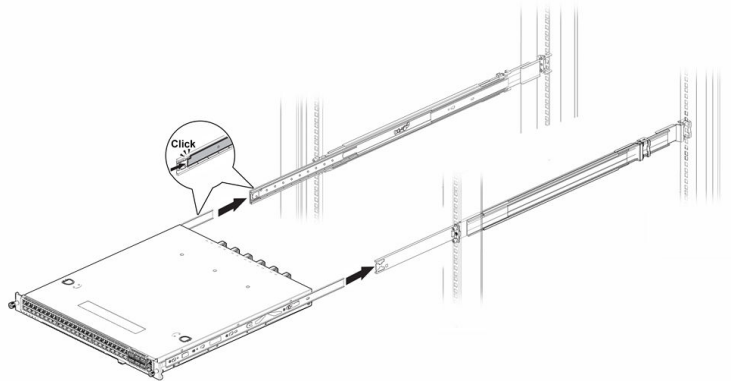

Figure 11: Engaging the Mounting Brackets with the Rail Assemblies
11. Push the switch in gently until both mounting brackets engage with the sliding rails. See Figure 11.